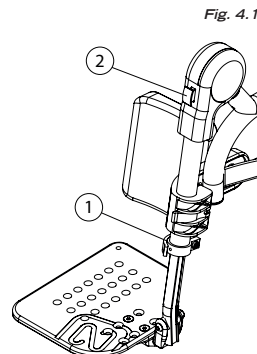

Fig. 4.1
- Install the elevating legrest (Fig. 4.1) the same way to install a regular front rigging, see section 9.3.1.